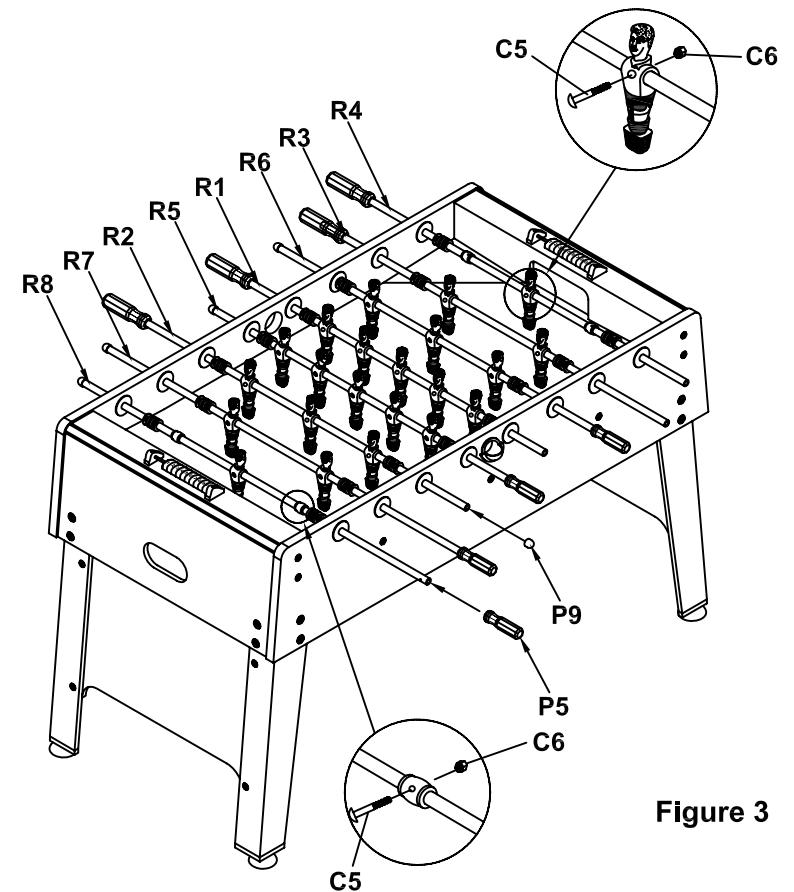

Figure 3
- 4.3. Once all rods are in place, attach the players and stop rings **C10** with bolts **C5** and nut **C6** as show in **Figure 3**.
5. Slide handle **P5** onto the end of the rods with the hole closer to the end. Slide the rubber caps **P9** on the other end of the rod as show in **Figure 3**.
Each play rod has a screw hole to secure the handle **P8**. The handle for play rod **R1**, **R2**, **R3**, and **R4** must be all on the same side of the table. The handle for play rods **R5**, **R6**, **R7** and **R8** must be on the opposite side of the table. Please refer to the **Figure 3** (page 7) for the positioning and direction of the screw hole and handle for each rod.